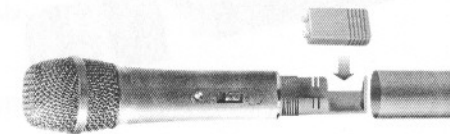

Fig. 3
3. Insert one piece of 9V battery with correct polarity, as shown in Fig. 3. Before inserting the battery, make sure that the power switch is switched off.